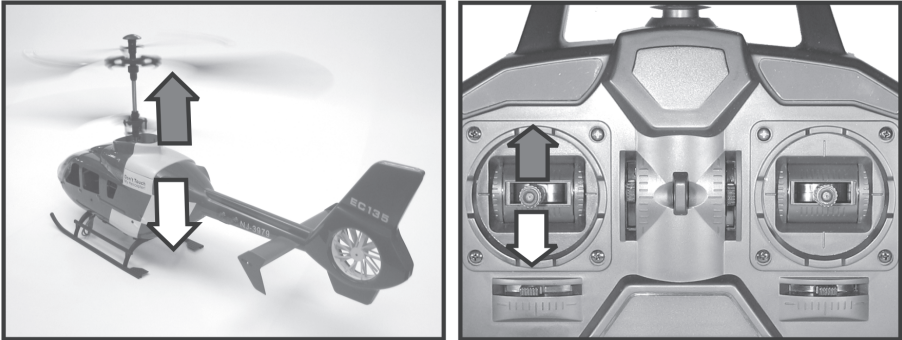

Figure 9
With the pitch function you can control the flying height of the helicopter (see figure 9). For control, the left control lever (also see figure 1, item 11) is used.
However, if during trimming, you notice that your model helicopter, with individual steering functions, responds contrary to the pattern illustrated in figures 9 - 12, then you can switch over at the transmitter, for each individual steering function, the direction of the response of the model.